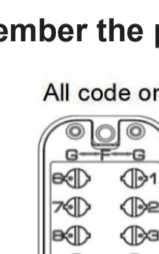

FIG 1B
- 2) "If you want to set a button as the password, gently push down the button with a slotted screwdriver and rotate it 180 degrees so that the dot aligns with a number. This button will then become the password. The dot should point outward towards 'G' (see figure 1B)